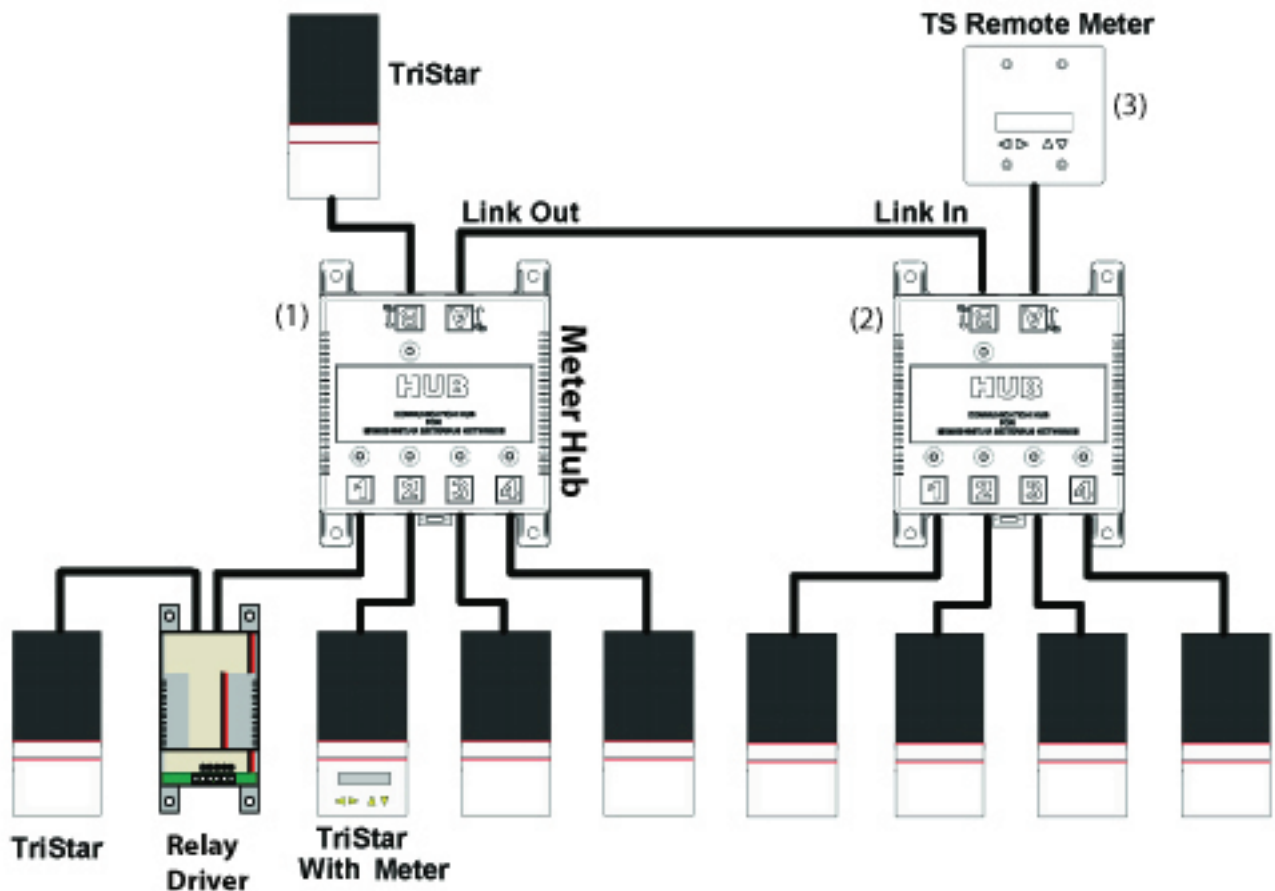

Figure 20. Morningstar MeterBus™ Large, Multiple Hub Network Diagram 1
- A maximum of three devices can be powered off a single device from Column A. The Multiple-Hub diagram in Figure 20 illustrates this.
- To supply power to a device from Column B, you must connect a device from Column A to the device from Column B, and then connect that device (B) to a port on the Meter Hub. Example Network #2 shows how to correctly achieve this.
Figure 20 illustrates a large MeterBus™ network making use of multiple Meter Hubs. The two hubs are linked using the *Link Out / Link In* Ports A & B, respectively. Each hub expands the number of MeterBus™ connections to the network. Notice that the TriStar powering the hubs can only accommodate a maximum of three (labeled 1-3) devices that require power (two hubs and one TS Remote Meter in the diagram below). **Remember:** A maximum of four Hubs may be linked on one MeterBus™ network, accommodating up to 15 MeterBus™ devices. Regardless of how many Hubs are used, all networking rules concerning power management still apply.